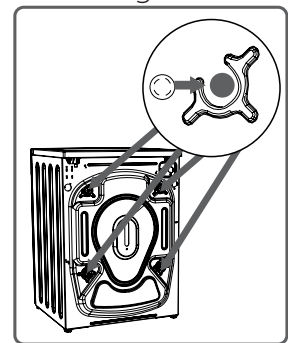

Fig 4
**3:** When the transport bolts have been removed, insert the plastic hole plugs found in the accessories bag into the holes. (Fig 4)